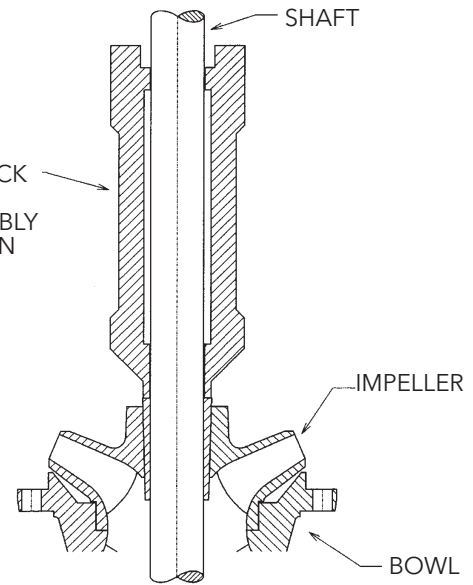

Figure 17
5. Insert a screwdriver into the slot in the taperlock (677) to spread the slot and slide the taperlock over the pump shaft. Hold the impeller against bowl and slide the taperlock into the impeller hub. Be sure the taperlocks have been cleaned and are dry.
6. Hold impeller firmly against the suction bowl/bell and drive the taperlock into place with a taperlock driver, (See Figure 17). After the impeller is secured in position, the top end of the taperlock should be 1/8" above the impeller hub.
7. Slide intermediate bowl (670) onto shaft and secure with capscrews provided.